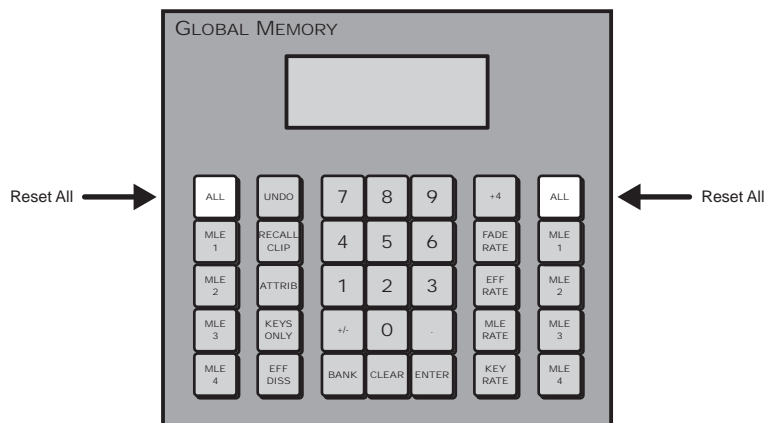

Figure 2.9 Press to Reset All MLEs at Once
- **All MLEs** — To reset all MLEs, press and hold both the **ALL** button in the **Recall** area and the **ALL** button in the **Store** areas (**Figure 2.9**). Only the MLEs assigned to the control panel are reset.